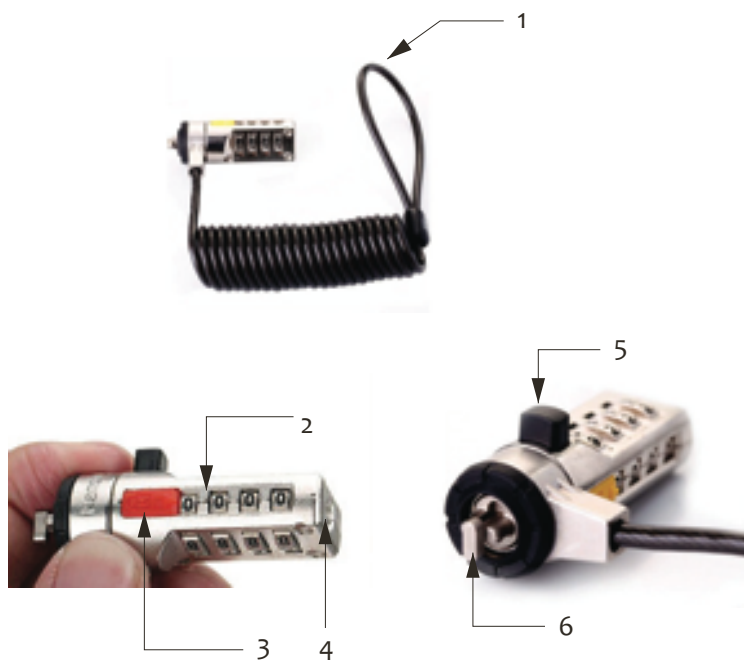

Figure 6-10: The Portable Combination Lock
- STEP 1** Take out of the combination lock connected with the cart via the coiling cable (1 in *Figure 6-10*).
- STEP 2** Rotate the combination number (2 in *Figure 6-10*) to the number previously set for the lock, for example, the initial combination 0000.
- STEP 3** Press and hold the push button (5 in *Figure 6-10*).
The T-bar (6 in *Figure 6-10*) is automatically rotated 90°. If the combination number set in step 2 is wrong, the push button cannot be pressed and the T-bar will not be automatically rotated. When you release the push button, the T-bar will be automatically turned back to its original position.
STEP 2 Align the screwhead (4 in *Figure 6-10*) with a paper clip, and then use the paper clip as a screwdriver to rotate the screwhead 90° clockwise.